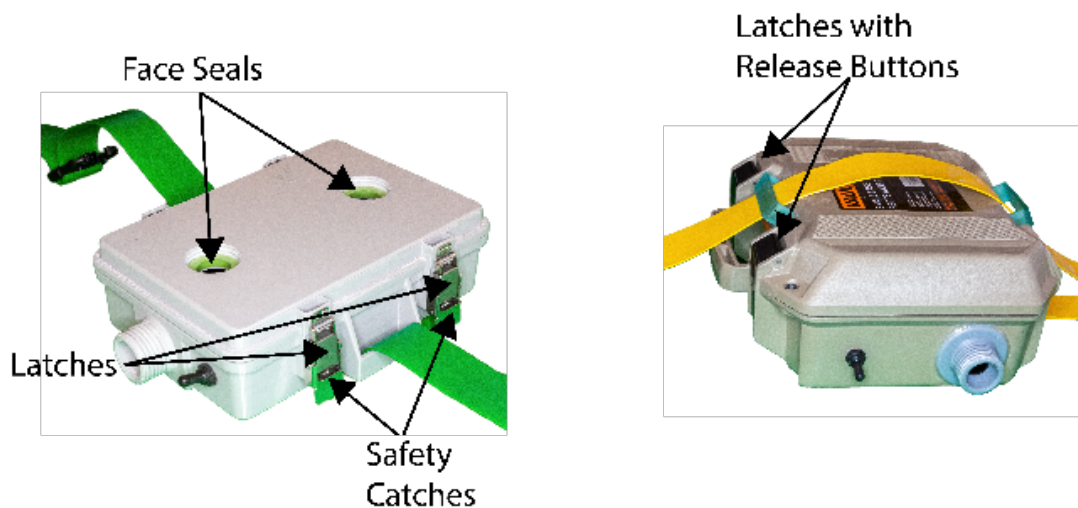

Figure 2: Housing Lid closure
2. Place the housing lid over the housing bin, ensuring none of the wires stick outside the blower unit, and close down the latches. See **figure 2** below.